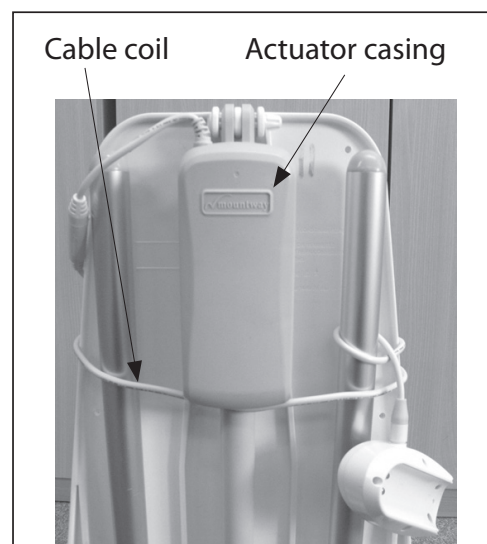

Figure 5
- Loop the remainder of the cable around one of the tubes(**fig 5**);
- v) Fill the bath/tub with water to the required level ensuring the actuator casing **(see fig 5)** is not submerged in water. Check that the water temperature is not too hot before using the bath lift.